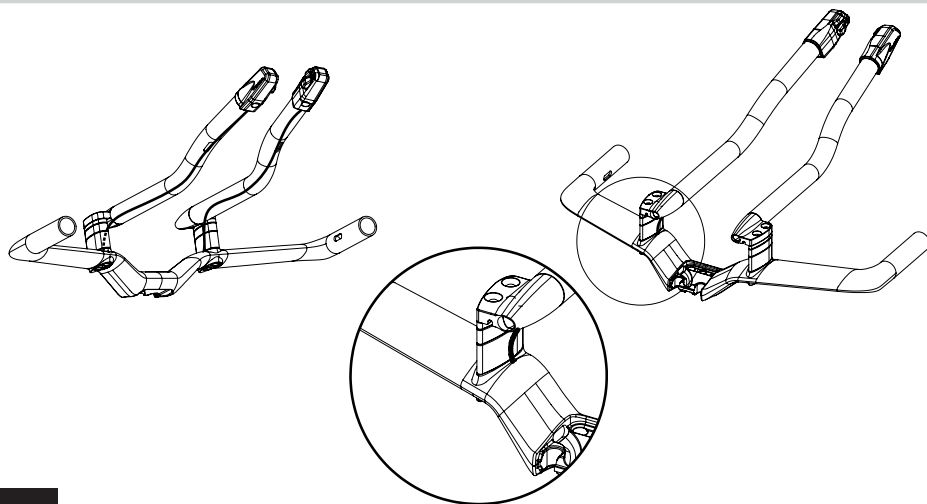

Fig. 7
- 3- Thread the two derailleur cable outers coming out of the horizontal tube cap into each extension. Bring them out through the oblong holes under the extensions and finalise the routing. (Fig § mech. frame routing – use the fig. 7)